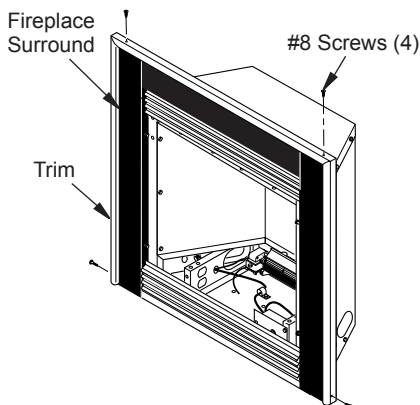

Figure 22 - Attaching Trim to Fireplace Surround
- Install trim after final finishing and/or painting of wall (see Figure 22).
- Line up holes in surround trim with holes on side panels of fireplace surround assembly. Attach with screws provided (see Figure 22).